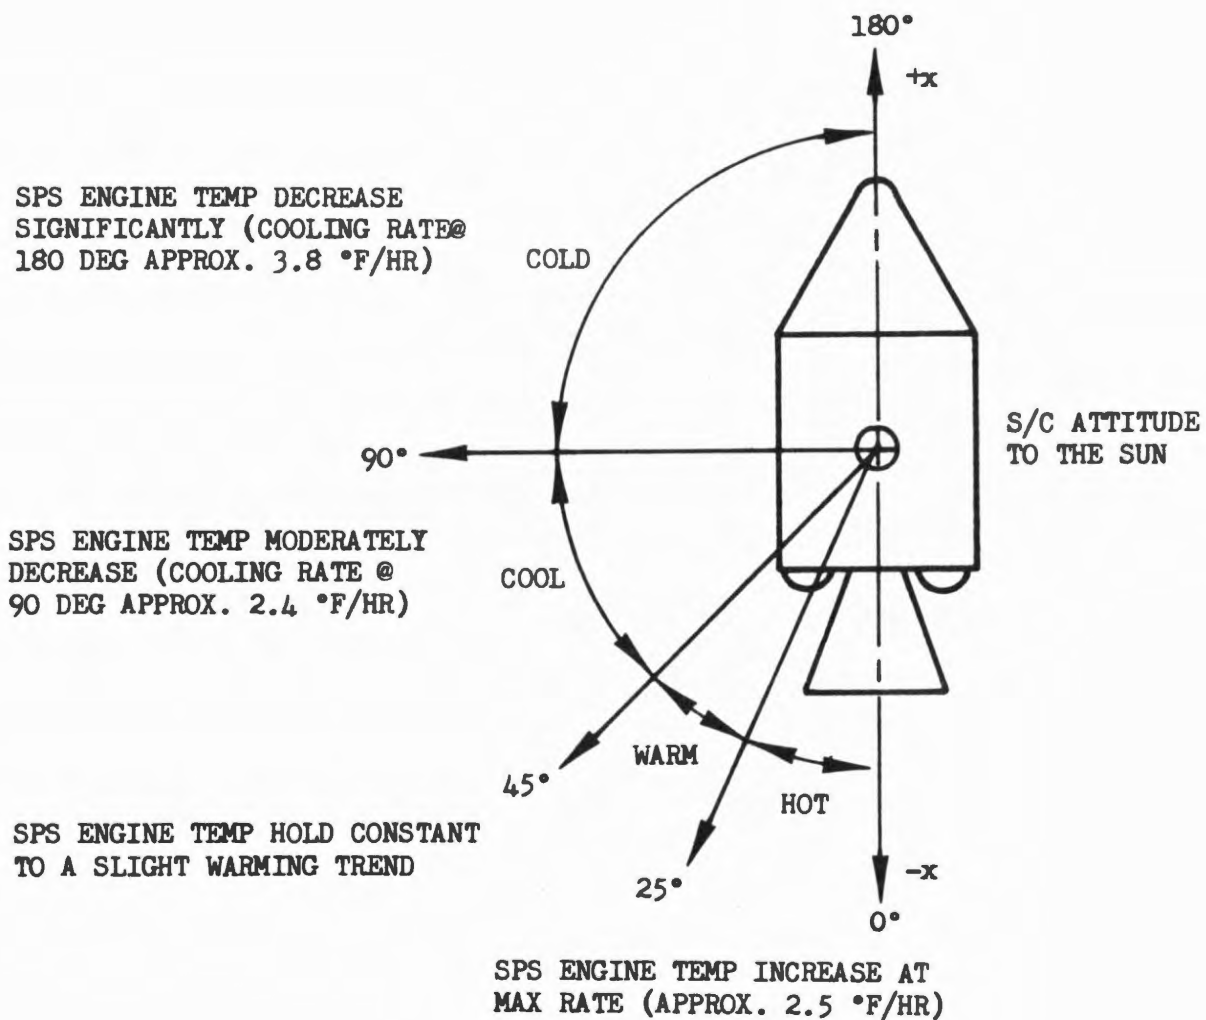

Figure 5-11. SPS ENGINE THERMAL RESPONSE
5.1.3 Proposed Alternate Method to Present Thermal Control Approach. This section contains a proposed alternate method of satisfying the thermal constraints of the SPS engine for both the free drift mission periods and the attitude hold periods for the hot and cold soak test firings of the SPS. It is based on data contained in Figure 5-11. The effort was initiated by the preliminary analysis results received showing that the wobble (spin stabilized) mode will not be useful as proposed to date. A means of satisfying SPS thermal constraints, minimizing SM RCS propellant consumption, conserving electrical power, and reducing SCS operating time is therefore proposed.
5.1.3.1.2 The analytically derived heating and cooling rates versus solar attitude are presented in Figure 5-11. More complete data on temperature change characteristics in the SPS region is available from SPS Analysis.
5.1.3.2 General Case (Free Drift). First the general case will be covered, then the application for cold and heat soak will be discussed. Each time a MSFN telemetry contact is available, the SPS temperature should be checked. The astronaut should then identify visually the relationship between the SPS nozzle (- X axis) and the sun and the direction of drift of the vehicle. Examination of Figure 5-11 will show that for any attitude an approximate heating or cooling rate can be resolved. From the direction of drift, the probable change to the heating or cooling rate can be predicted. If necessary, the random drift rate can be modified simply to adjust the temperature trend appropriately. Several examples are given of sample evaluations for clarification.